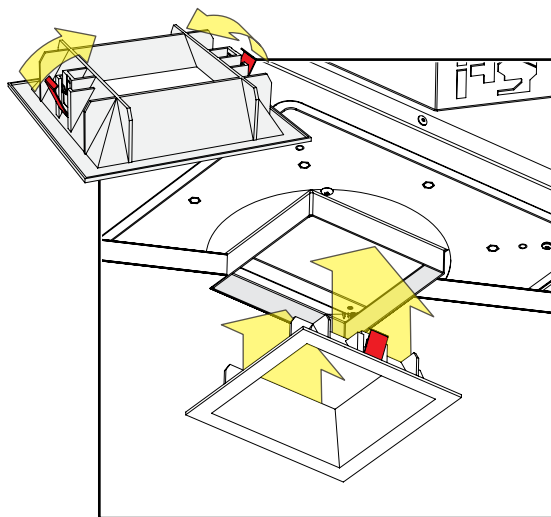

fig. 13
3. Compress the springs and push into the downlight aperture until the trim is flush to the ceiling. Ensure that the springs are properly compressed and are going into the collar, not around the collar. (see fig. 13)